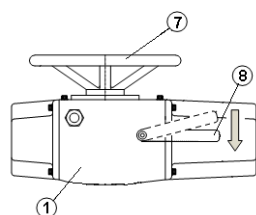

Figure 5.2: Manual operation
In order to operate the system manually by means of the handwheel (7), the lever (8) must be moved downwards, as shown in Figure 5.2.
**Figure 5.2 legend:**